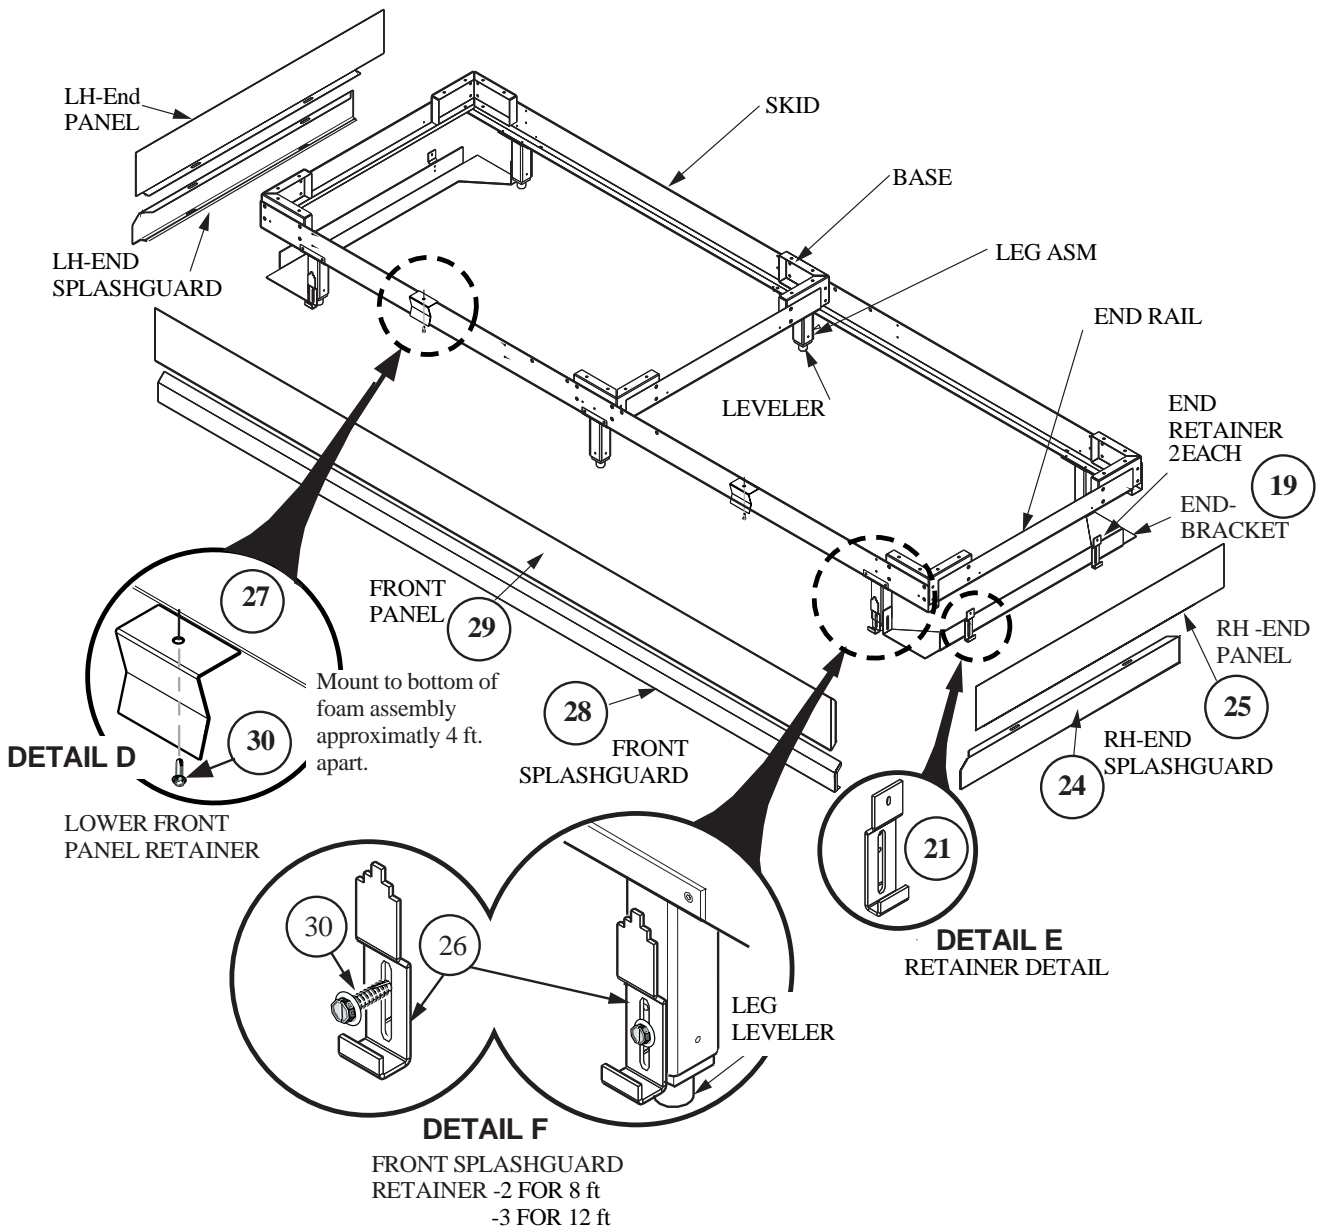

Figure 8. Installing Splashguards and Panels
STEP 10. Use one **Sheet Metal Screw – 30** to attach each pair of **Lower Front Panel Retainers – 27** centered in each four-foot section of the front of case. (see Figure 8, Detail D).